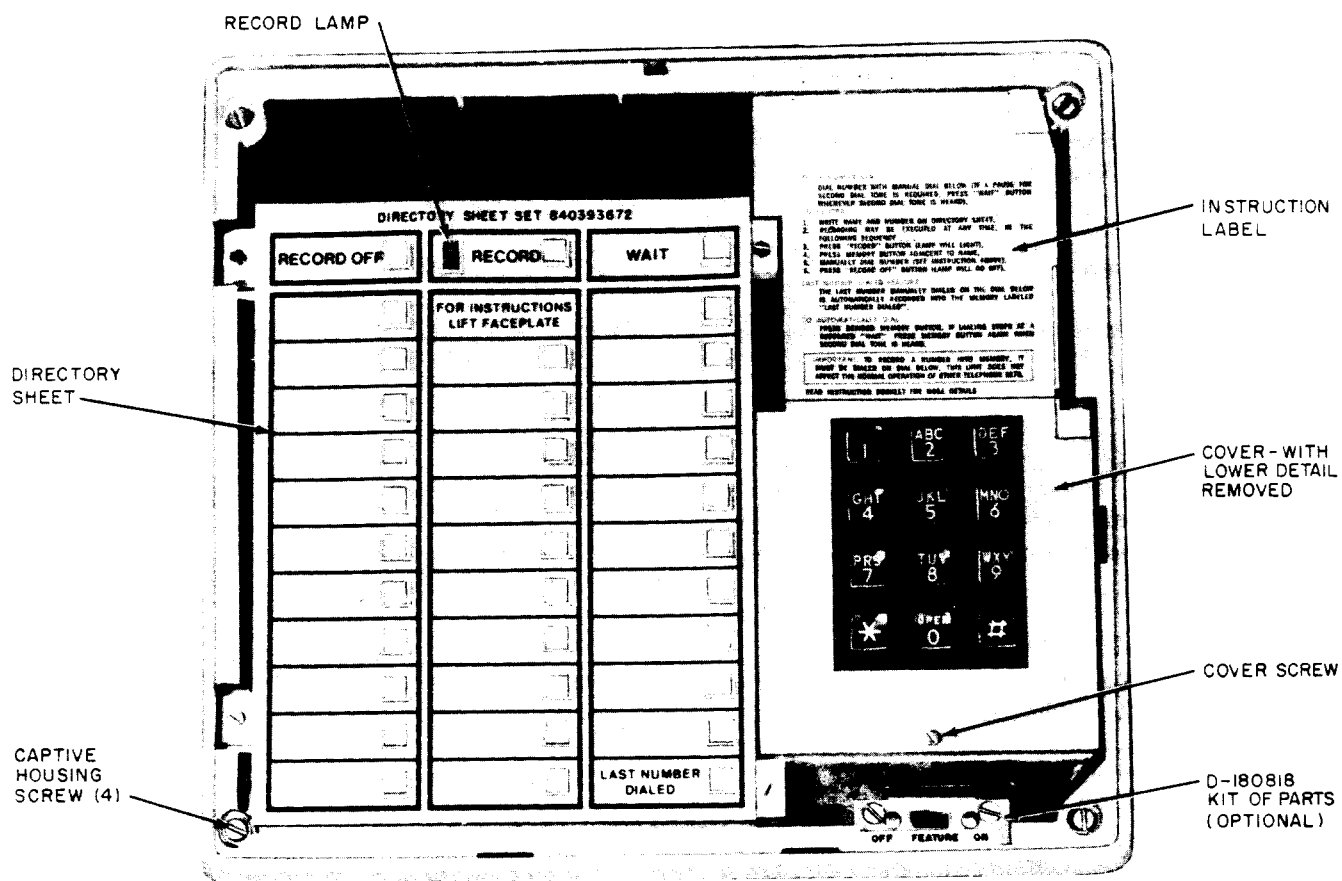

Fig. 2—2870A1 Dial, Faceplate Removed
3.04 Directory sheets (Fig. 2) are held in place under the faceplate. Additional sheets are available in directory sheet set.
(1) Remove faceplate (paragraph 3.10).
(2) Loosen the captive screw at the bottom of the cover around the dial and remove the cover (Fig. 2).
(3) Disengage dial from chassis (paragraph 6.05 or 6.06).